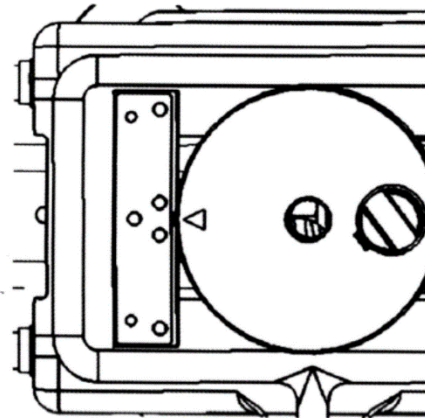

Figure 29 Diverter switch at the setting position
- 2) Diverter switch should be in the setting mounting position (Figure 29).